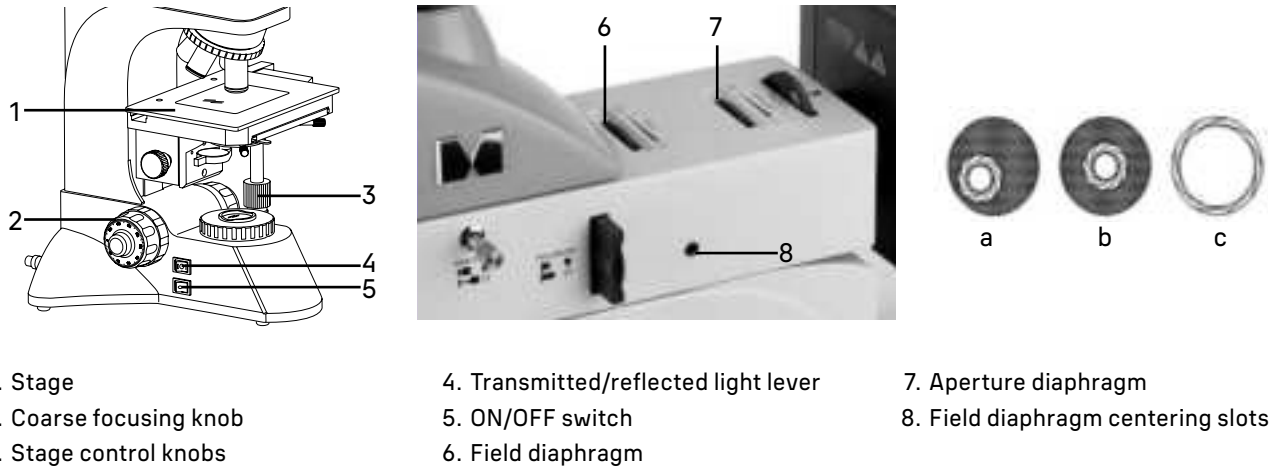

Fig. 16. Centering the field diaphragm
- Make sure that the power supply and the illuminator are switched on: switch 5 (Fig. 16) is in the "—" position, switch 4 (Fig. 16) is in the "II" position, and the lever 4 (Fig. 2) is in the reflected light position.
- Introduce the 10x objective into the optical path, place the specimen on the stage 1 (Fig. 16), focus, and adjust the eyepieces.
- While looking through the eyepieces, close the field 6 (Fig. 16) and aperture 7 (Fig. 16) diaphragms so that only the center of the field of view is illuminated.
- Verify the centering of the field diaphragm image. If necessary, center the image with two centering wrenches, having previously installed them in the sockets 8 (Fig. 16) located on both sides of the illuminator.
- Open the field diaphragm 6 (Fig. 16) until it just disappears outside of view. Close the aperture diaphragm 7 (Fig. 16) to achieve the desired contrast and the optimal level of illumination.
- When you change an objective, adjust the opening of the field diaphragm 6 (Fig. 16). It should always be slightly larger than the field of view.
- When you change an objective, adjust the opening of the aperture diaphragm 7 (Fig. 16). When using low-magnification objectives, reduce the aperture diaphragm opening; when using high-magnification objectives, increase the aperture diaphragm opening. Make sure that the image is clear and high-contrast.